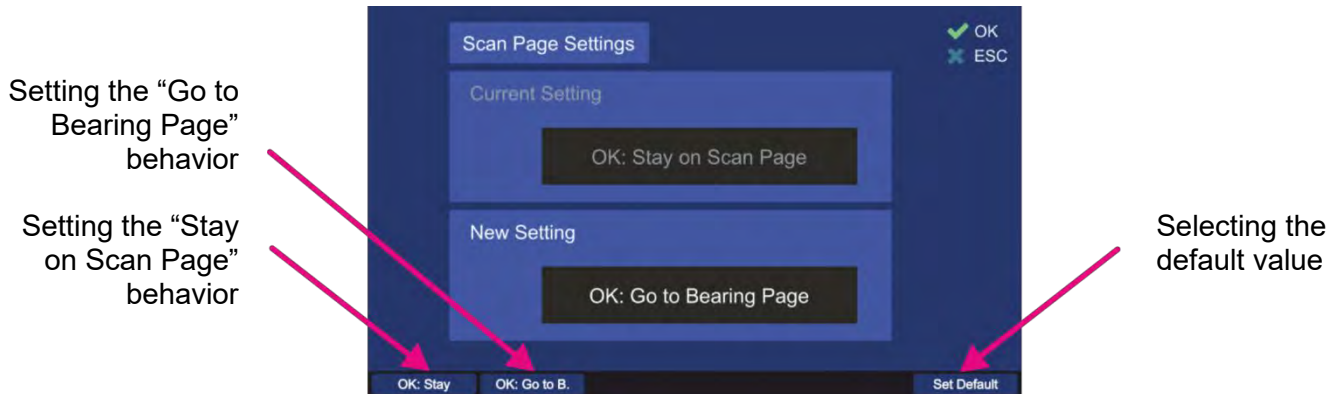

Figure 107. Scan page settings dialog
- o By pressing the “OK button or hotkey “Edit Value”, while the setting “Scan Page Settings” is marked, the following dialog is opened (s. Figure 107).
- o Choose the new setting using one of the hotkeys (s. Figure 107), which will then appear in the “New Setting” field.